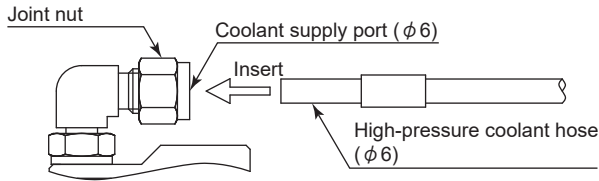

Fig. 11
- (1) Insert the high-pressure coolant hose (diameter $\phi 6$ mm) fully into the coolant supply port (diameter $\phi 6$ mm), and turn the joint nut clockwise to tighten it. (Fig. 11)